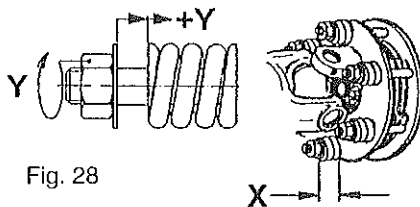

Fig. 28
2. Slacken the C locking nuts and make the required adjustments to all springs.. Refer to Fig 28 and Fig 29 for initial settings.